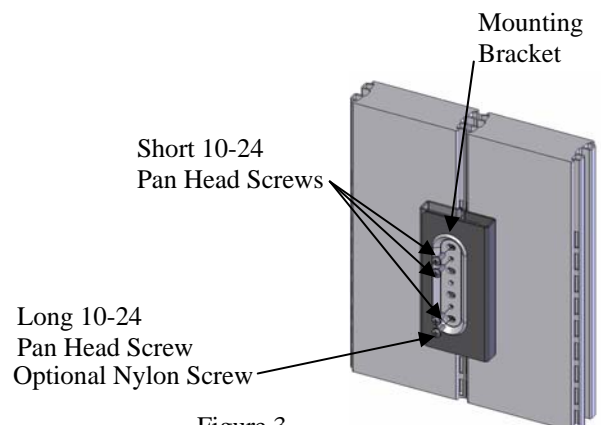
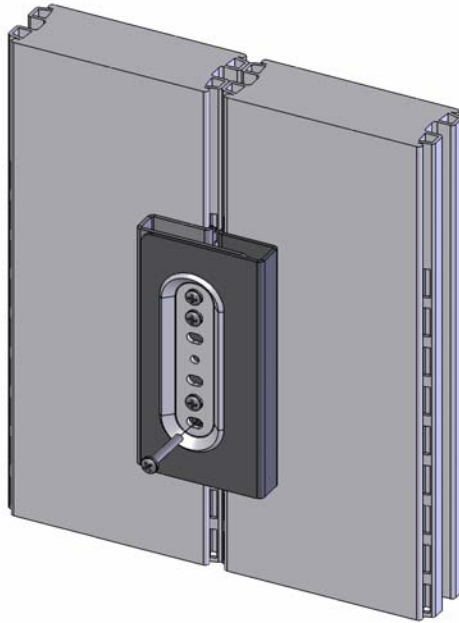

Figure 3
Figure 4
3. Secure the mounting bracket (supplied with your mounting assembly) by installing four short 10-24 pan head screws (see Figure 3 and Figure 4).
4. If desired, replace one short screw with one long screw to make mount more rigid (see Figure 4).